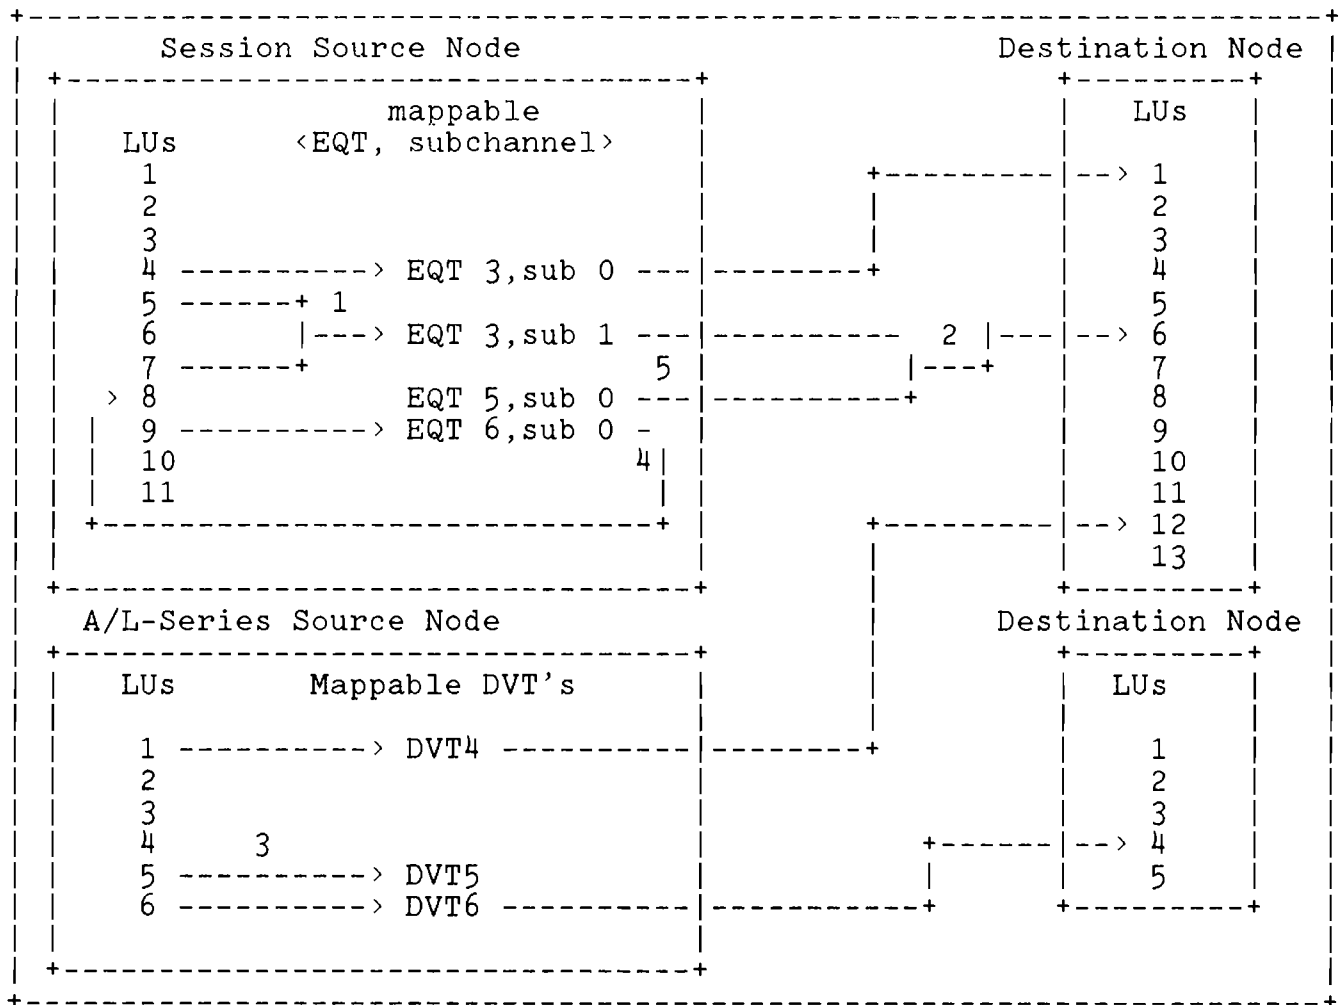

Figure 3-3. Some Remote I/O Mapping Possibilities.
Figure 3-3 shows some of the different possibilities of map set-ups. These are described below:
1. Several LUs may point to the same mappable <EQT, subchannel>. This is as one would expect, as RTE allows multiple LUs to point to the same <EQT, subchannel>. See (1) in Figure 3-3.
2. Several mappable <EQT, subchannel>'s may point to the same destination LU and node. The source LUs need not be at the same node. This may result in interleaved output at the destination LU, but there is an option to identify where each line of output is coming from as it appears on the screen (refer to IOMAP parameters). See (2) in Figure 3-3.
3. A mappable <EQT, subchannel> may point "nowhere" (the bit bucket). A request to an LU pointing to this <EQT, subchannel> will be completed with a transmission log of 0 and a status of 0. DVT5 at the RTE-L is such an example. See (3) in Figure 3-3.
4. A mappable <EQT, subchannel> may point to an LU on the same node. The destination LU can not be mappable. See (4) in Figure 3-3.
5. A mappable <EQT, subchannel> may have no LU pointing to it. This can happen if the LU had been moved elsewhere via the system "LU" command after the map had been set up. See (5) in Figure 3-3.